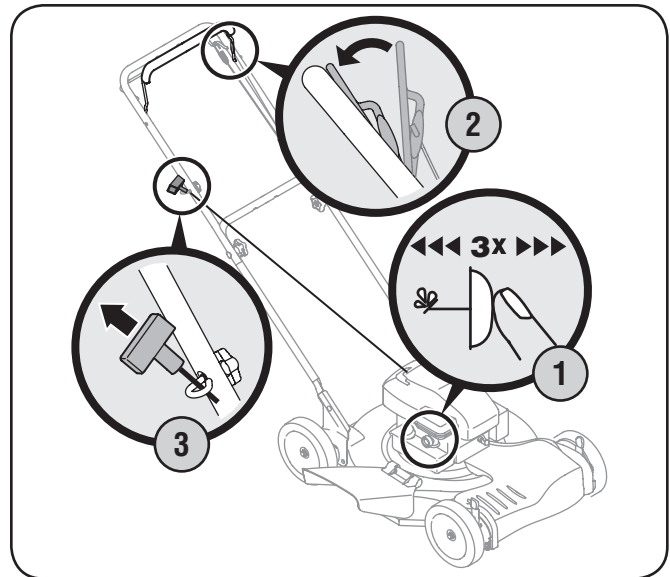

Figure 5-1
1. When starting the engine for the first time, push primer (if equipped) five times. For all future starts, push the primer three times. Wait about two seconds between each push. See Fig. 5-1. Do not prime to restart a warm engine.
3. Holding these two handles together firmly, grasp recoil starter handle and pull rope out with a rapid, continuous, full arm stroke. See Fig. 5-1. Keeping a firm grip on the starter handle, let the rope rewind slowly. Repeat until engine cranks. Let the rope rewind each time slowly.